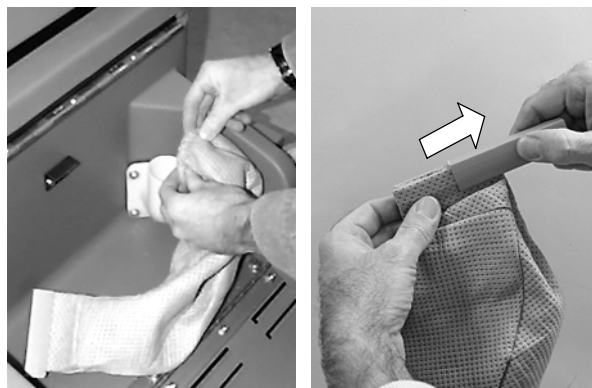

FIG. 26
2. Empty or replace the dust control bag. Remove the bag clip to empty bag (Figure 26). Do not allow bag to fill beyond half full.